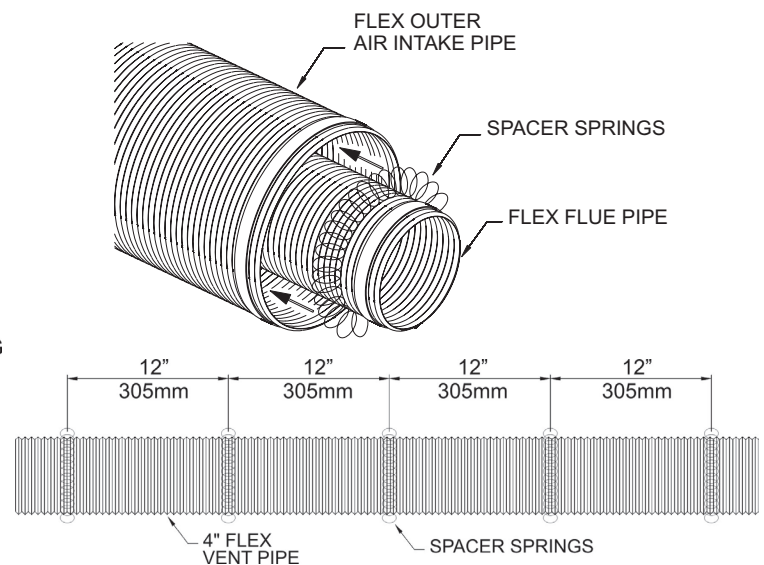

Figure 33
9. Install the spring spacers provided around the 4" diameter flex flue at 1 foot intervals, then slide the flue pipe with spacers into the 7" diameter outer flex vent pipe. Make sure the springs are spaced evenly starting at 12 inches from the fireplace collar. **See Figure 33.**